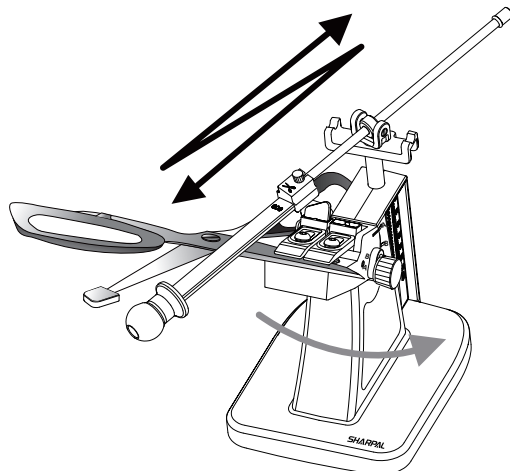

Fig. 10
2. Apply light pressure with long, smooth strokes, starting from the heel of the blade. Slide the abrasive plate back and forth along the cutting edge towards the tip. Stop at the tip of the blade (See Fig. 10).